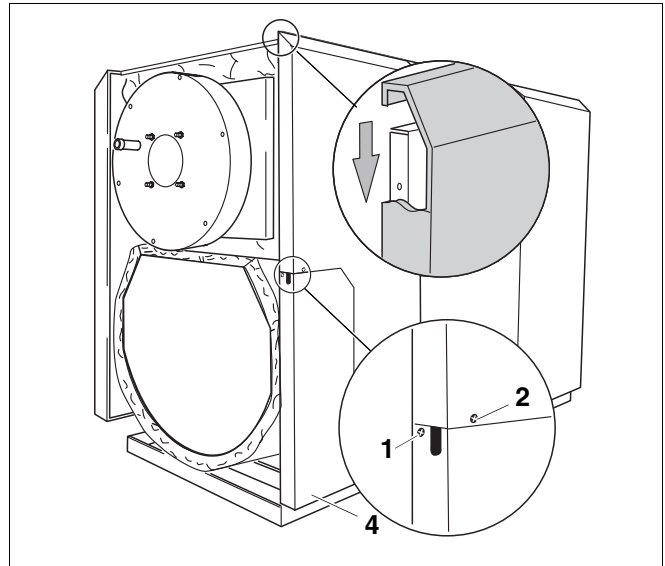

Fig. 15 Hooking in the side walls at the top
- Lift the side walls and hook the top into edge of the horizontal brackets (Fig. 15).
- Insert the small side sections (Fig. 15, **Item. 3**) into the side and at the bottom.
- Secure the side wall nearest the front to the central cross brackets using one self-tapping screw (Fig. 15, **Item. 2**) and secure the central cross bracket.
- Secure the small side sections (Fig. 15, **Item. 3**) at the front using two self-tapping screws each (Fig. 15, **Item.1**).